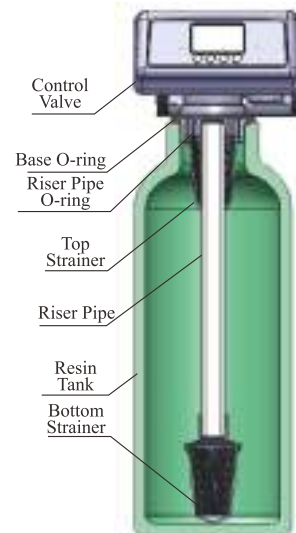

Figure 1-1
- a. As the Figure 1-1 shows, select the relevant riser pipe, glue the riser pipe to the bottom strainer and put it into the mineral tank, cut off the exceeding tube out of tank top opening and round it. Plug the riser pipe in case of mineral entering.